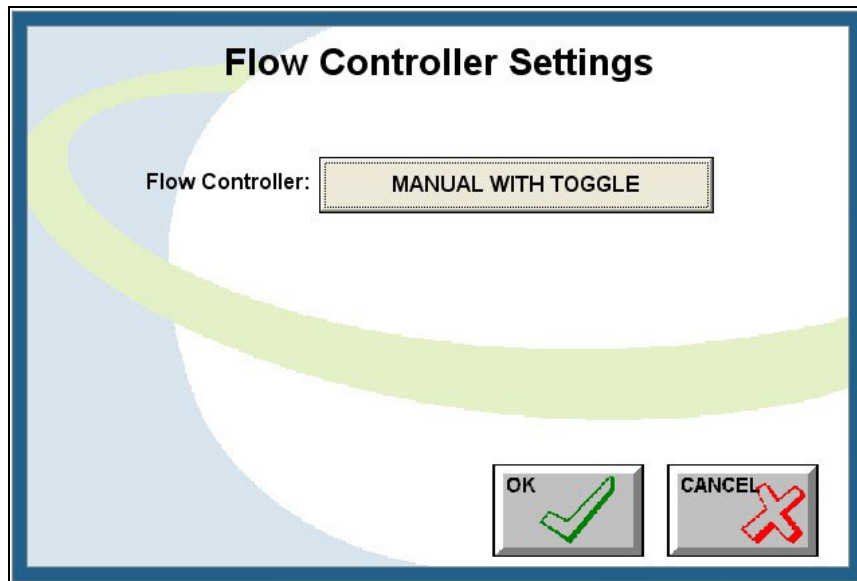

Figure 6-7: Flow Controller Settings Window
- 4) Touch the **FLOW CONTROLLER** button as shown in Figure 6-7.